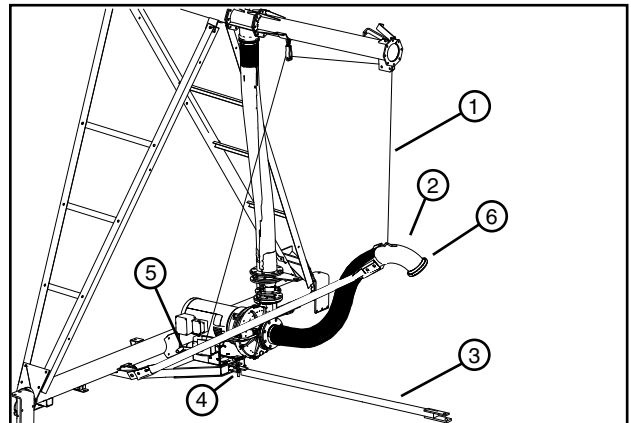

Figure 79-3 1. Lift Cable 2. Elbow Inlet 3. Tongue 4. Torque Pin 5. Cable Lift Handle 6. Disconnect Point
- Attach the tongue to the hose pull frame with torque pin. See figure 79-3.